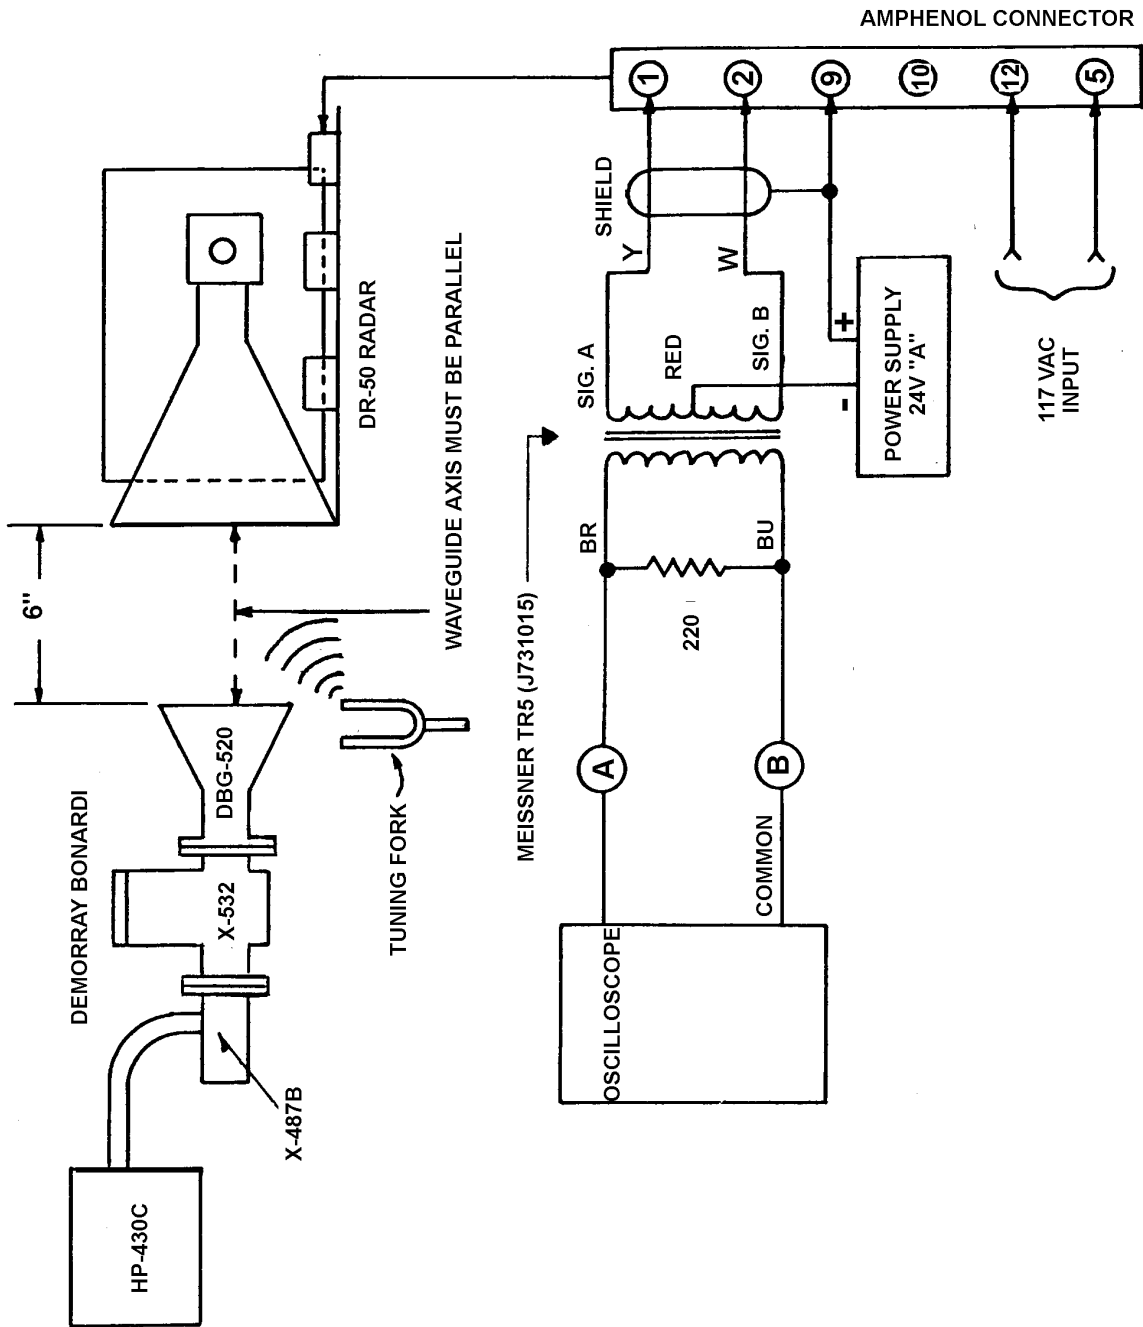

Figure 6-5. DR-50 Radar Test Set Up
3. Set DR-50 chassis on service bench. Connect the test setup as shown in Figure 6-5. Apply power and allow approximately 30 minutes for warm-up stabilization. Check (with TP-1 as common) that positive and negative power supplies are within tolerance (and don't display excessive ripple): TP5 = 10 VDC (± 0.1 VDC), TP-6 = 9 VDC (± 1 VDC) and TP-17 = 12 VDC (± 1 VDC).